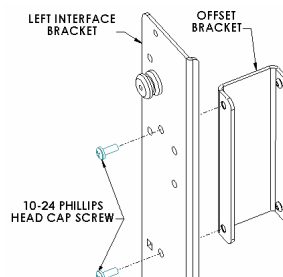
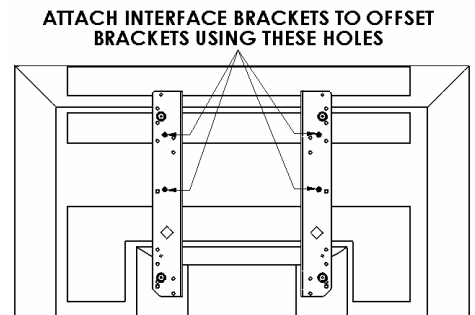

Figure 6
Figure 7
5. Using 10-24 phillips head cap screws, secure brackets (See Figure 6 & Figure 7). Do not over tighten screws.